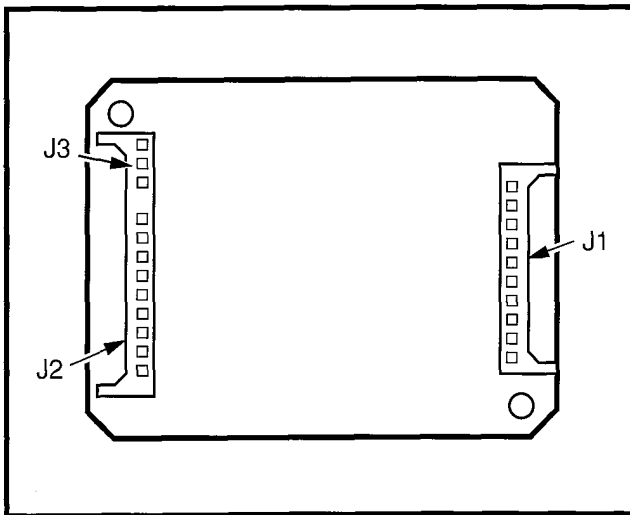

FIGURE 6-12—REMOTE MAINTENANCE MODEM UNIT (IMDU) INSTALLATION
- 5) Mate IMDU connectors **J1**, **J2**, and **J3** with PIOU or PIOUS connectors **P1**, **P2**, and **P3** (refer to Figure 6-12).